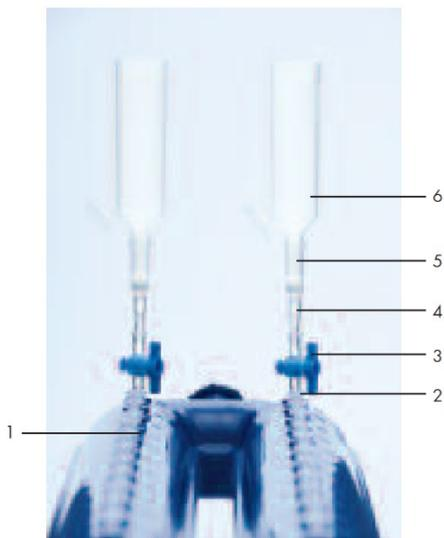

Figure 4. Setting up the QIAvac 24 Plus with QIAamp Mini columns using VacValves, VacConnectors, and Tube Extenders.
2. Insert a VacValve (optional) into each luer slot of the QIAvac 24 Plus that is to be used (see Figure 4). Close unused luer slots with luer plugs or close the inserted VacValve. VacValves should be used if flow rates of samples differ significantly to ensure consistent vacuum.
4. Place the QIAamp Mini columns into the VacConnectors on the manifold (see Figure 4).
5. Insert a tube extender (20 ml) into each QIAamp Mini column (see Figure 4).